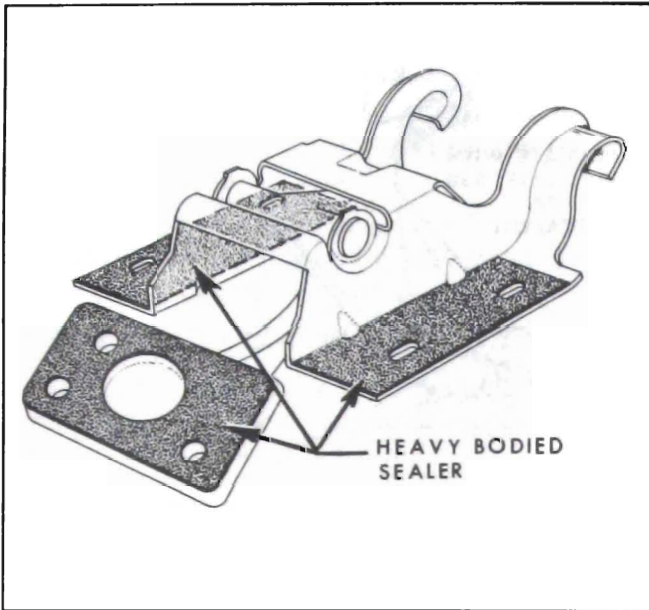

Figure 13-76—Back Door Hinge - Anti-squeak
3. To install back door assembly, first, as an anti-squeak precaution, apply a coat of heavy-bodied sealer to attaching surfaces of both hinges (see Figure 13-76); then, reverse removal procedure. Align back door with previously made hinge marks.
2. As an anti-squeak precaution, apply a coat of heavy-bodied sealer to surfaces of hinge which contact body and back door. See Figure 13-76.